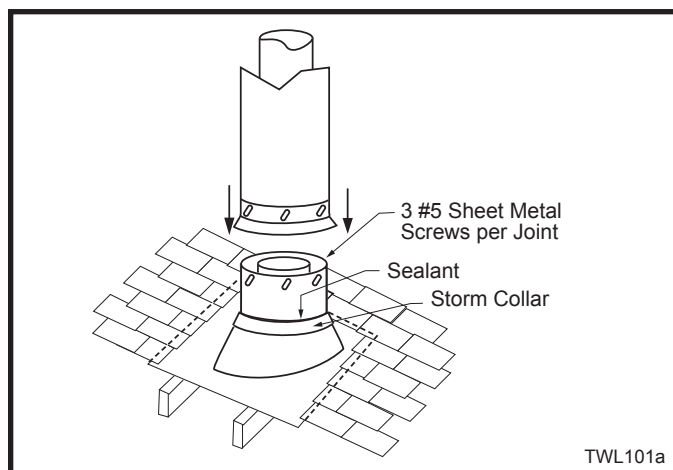

Fig. 38 Roof flashing.
7. Install roof support (Fig. 38 & 39) and roof flashing making sure upper flange is below the shingles. (Fig. 38)
8. Install appropriate pipe sections until the venting is above the flashing. (Fig. 38)
The enlarged ends of the vent section always face downward. (Fig. 38)